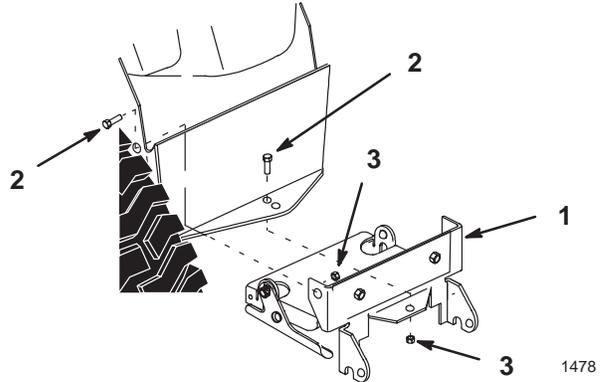

Figure 5
1. Install rear mounting plate\blade bracket assembly under and inside rear frame member with short tongue rearward (Fig. 5).
2. Secure with (3) 1/2 x 1-1/4" bolts and 1/2" lock nuts at holes in frame side members and tractor hitch forward hole (Fig. 5).